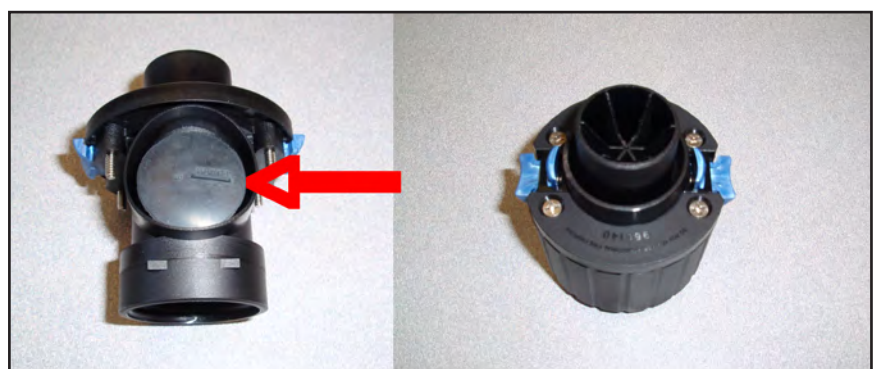

Figure 3: Clean Exhalation valves
- Remove the four screws on the adapter (figure 3)